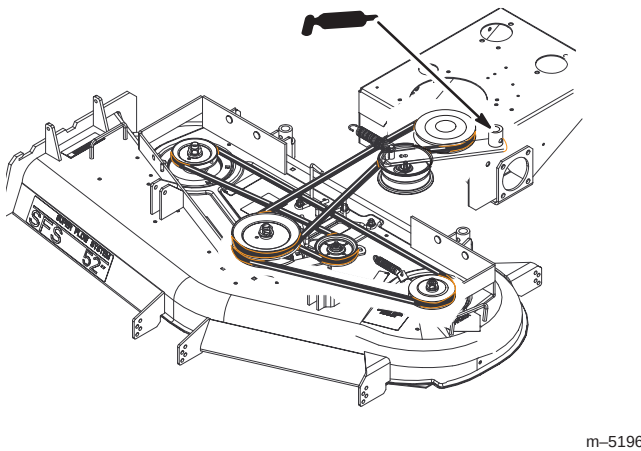

Figure 31
2. Grease the idler pulley pivot for the deck (Fig. 31).